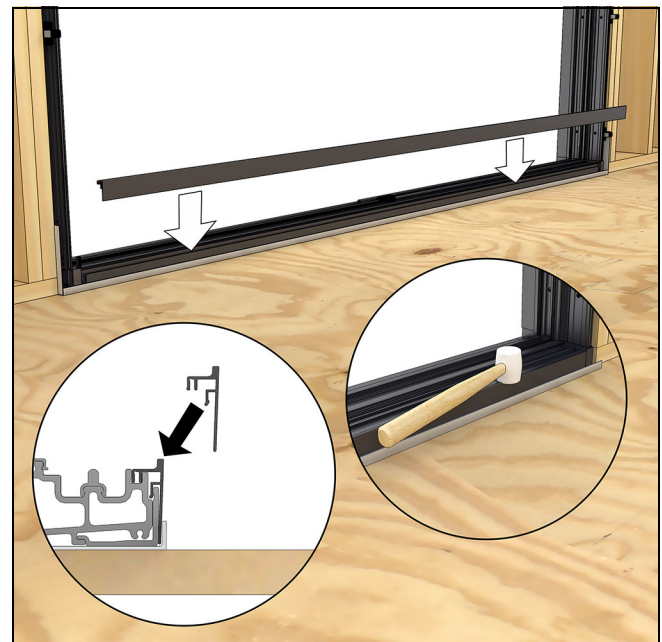

Figure 41
6. Install the interior sill liner. Set with a rubber mallet. See Figure 41.